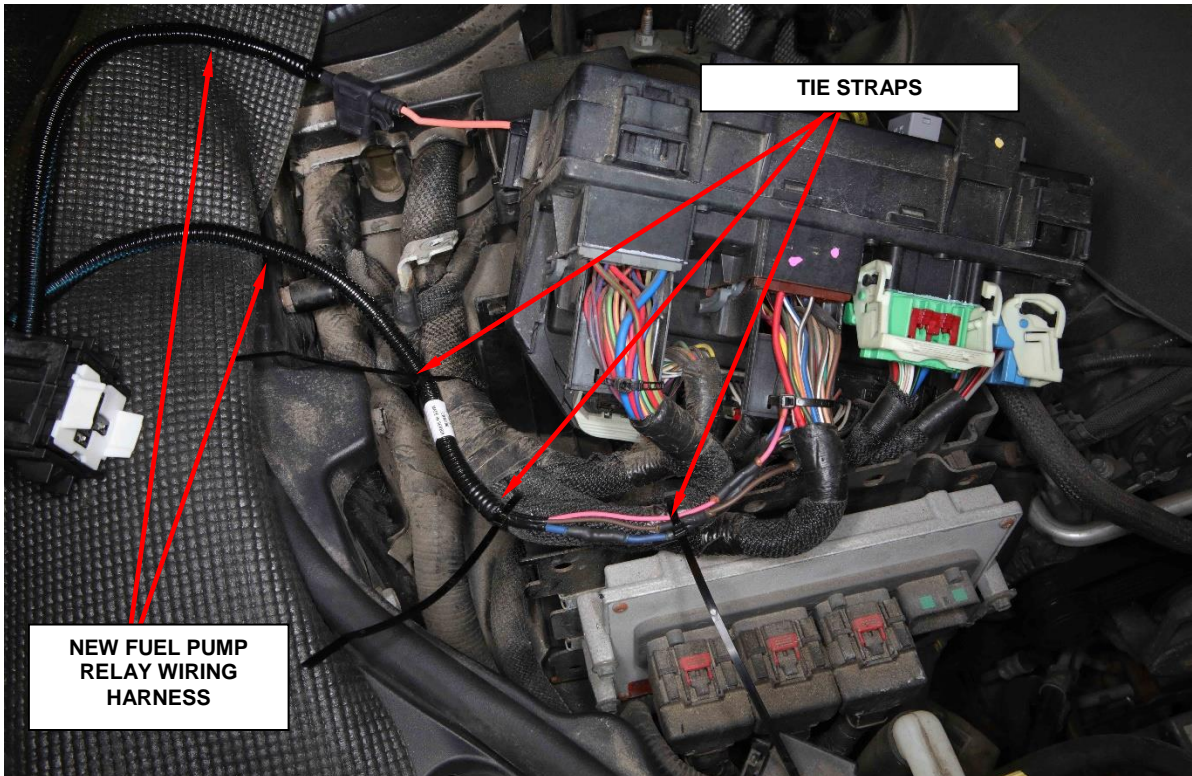

Figure 32 – New Fuel Pump Relay Harness
30. Route the **NEW** Fuel Pump Relay wiring harness along the main TIPM harness and secure the **NEW** harness using tie straps as shown in (Figure 32).